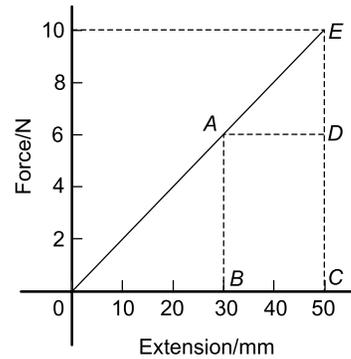

Figure 15.6
Figure 15.6 shows the force/extension graph for the spring.
- (a) Work done in extending the spring from zero to 30 mm is given by area ABO of Figure 15.6,
- (b) Work done in extending the spring from 30 mm to 50 mm is given by area $ABCE$ of Figure 15.6, i.e.